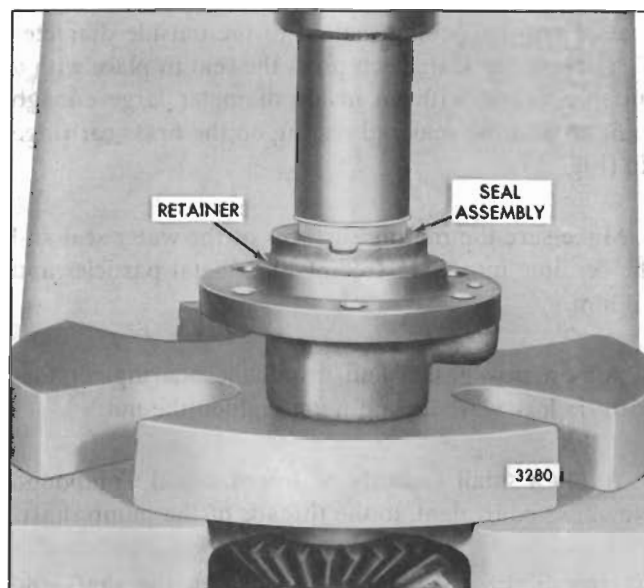

Fig. 13 - Installing Water Seal Assembly
6. Make sure the mating surfaces of the water seal assembly and the ceramic insert (Fig. 13) are free of dirt, metal particles and oil film.
coat of non-hardening sealant to the outside diameter of a new water seal. Then press the seal in place with a suitable sleeve, with an inside diameter large enough to fit around the seal and resting on the brass cartridge lip (Fig. 13).